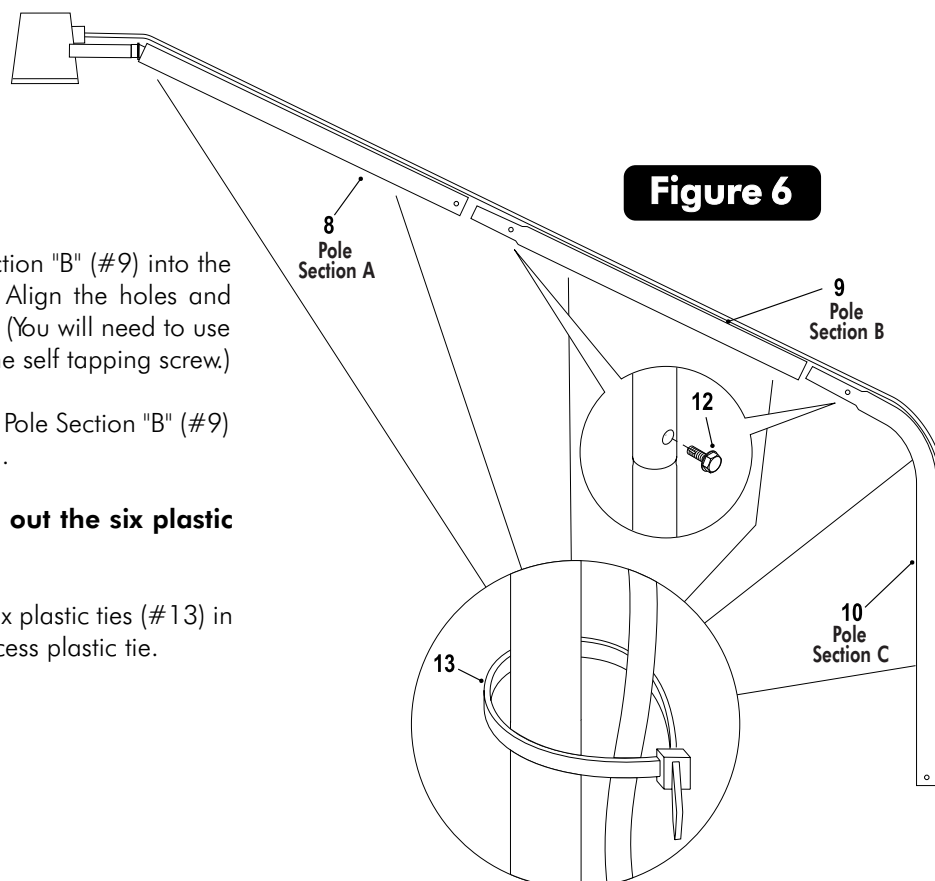

Figure 6
13. Secure the electrical cord to the pole with six plastic ties (#13) in the locations shown in Figure 6. Cut off excess plastic tie.